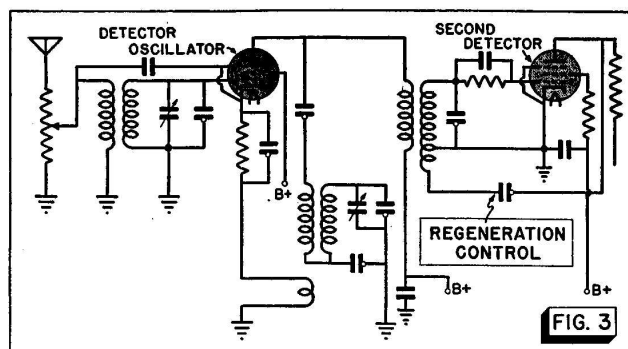

FIG. 3
► The r.f.-i.f. section of a variation of the superheterodyne circuit is shown in Fig. 3. Notice that there is no i.f. tube, but an i.f. transformer is used to couple the first detector to the second detector. This is essentially a superheterodyne circuit, since an i.f. signal is produced. Although there is no i.f. tube to amplify this signal, some i.f. gain is provided by the transformer. More is secured by making the second detector regenerative. This particular variation makes a four-tube set. It was rather popular several years ago, so you may still occasionally get one for servicing.